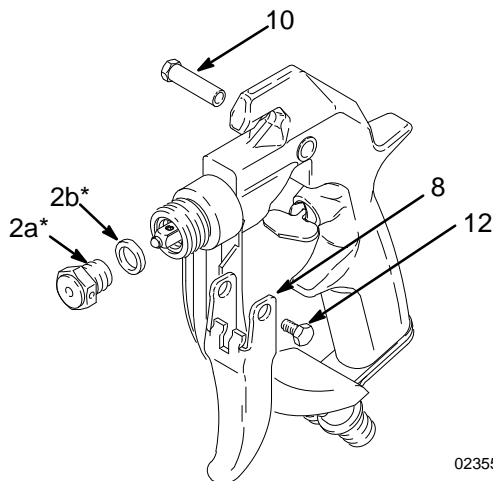

Fig. 5
3. Remove the diffuser/seat (2a*) and gasket (2b*). Remove the screw (12), pivot pin (10), and trigger (8). See Fig. 5.
9. Grease the diffuser/seat threads. Place the new gasket (2b*) on the diffuser/seat (2a*) and screw the assembly into the fluid housing (6). Torque to 20–25 ft-lb (27–34 N.m). See Fig. 5.
10. Install the trigger (8), pivot pin (10) and screw (12). See Fig. 5.